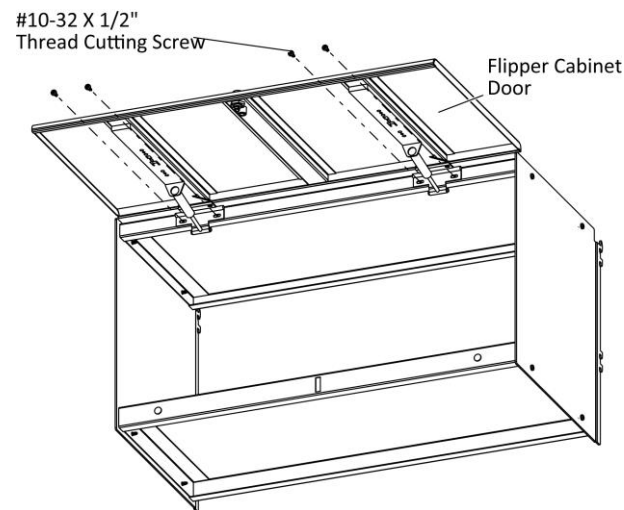

Figure 3
- Securely fasten the flipper cabinet door to the flipper cabinet top with a #10-32 X 1/2" Thread Cutting Screw, (Figure 3).